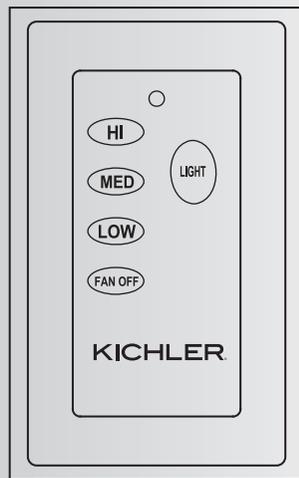

Fig. 22
**Light Button** = the "LIGHT" button turns the light ON or OFF and also controls the brightness setting. (Fig. 22.)